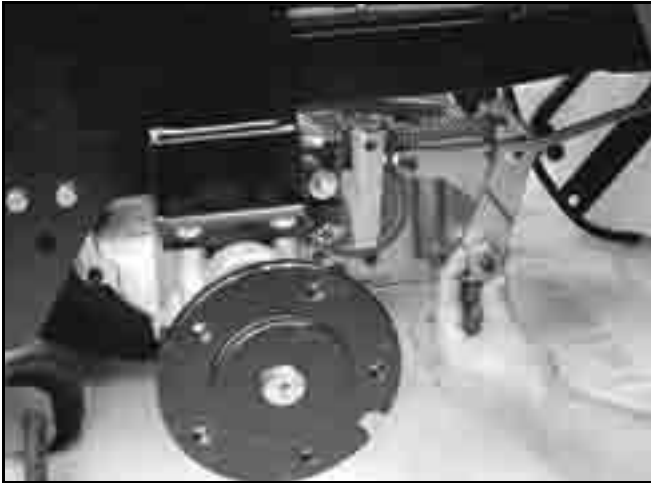

Figure 143
4. Rotate the adjusting puck in both directions and watch the axle direction. You want to adjust the puck so it is set in the mid-point between forward and reverse axle rotation. Make sure the axle is not moving (Figure 143).